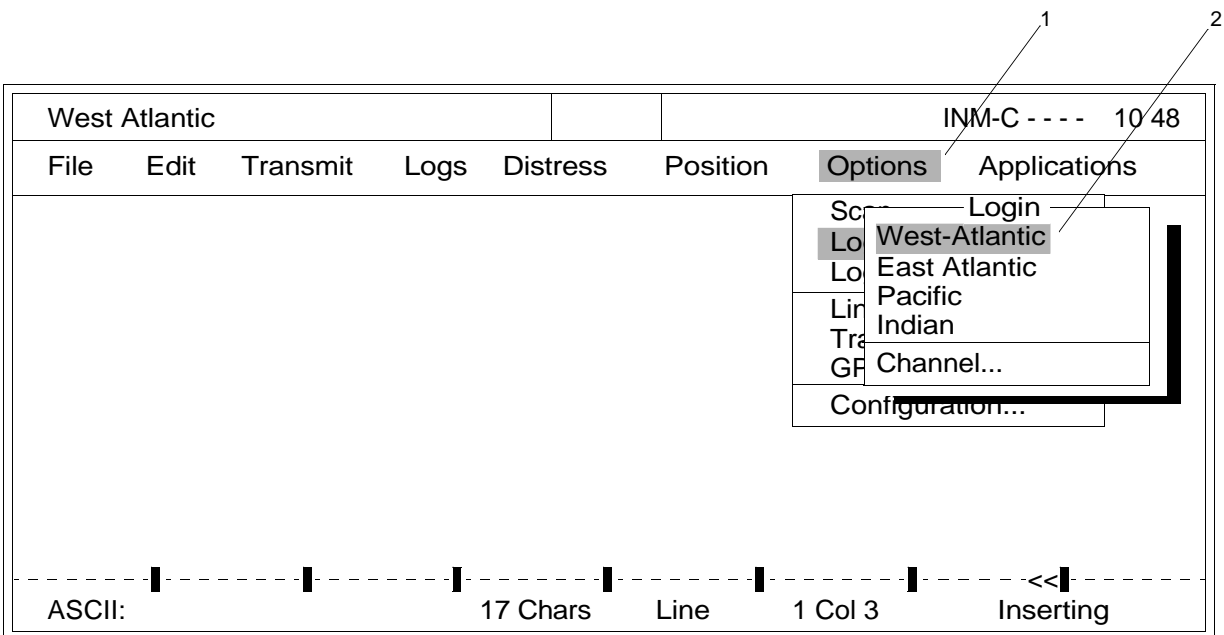

Figure 2. Login Drop-Down Menu
6. Highlight the desired ocean region (figure 2, item 1) from the drop-down menu.